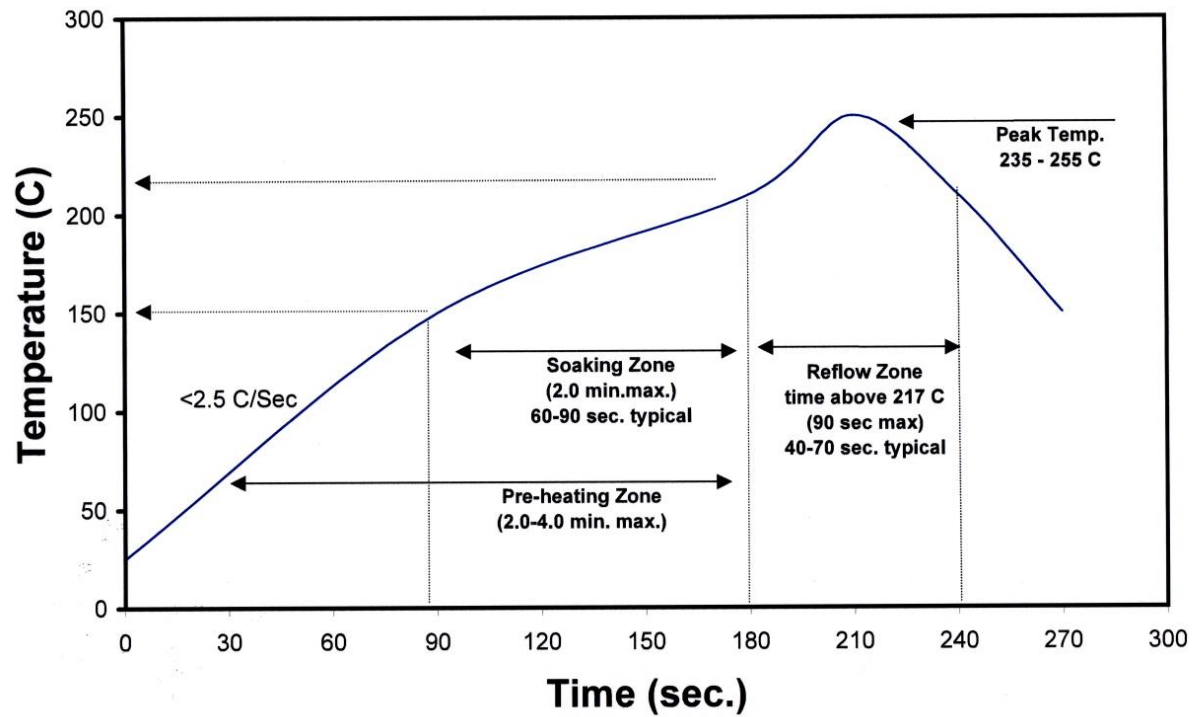

Figure 3: Reflow soldering profile for lead free soldering.
4. Solder conditions per JEDEC 020D. See Reflow Soldering Profile Figure 3.